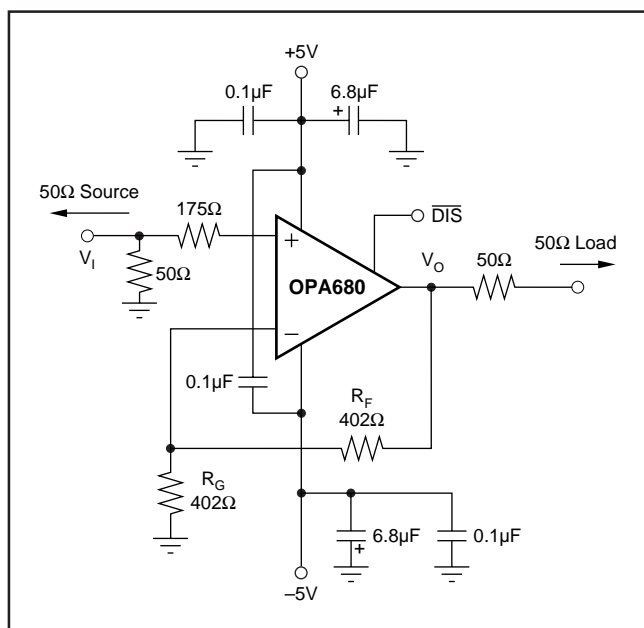
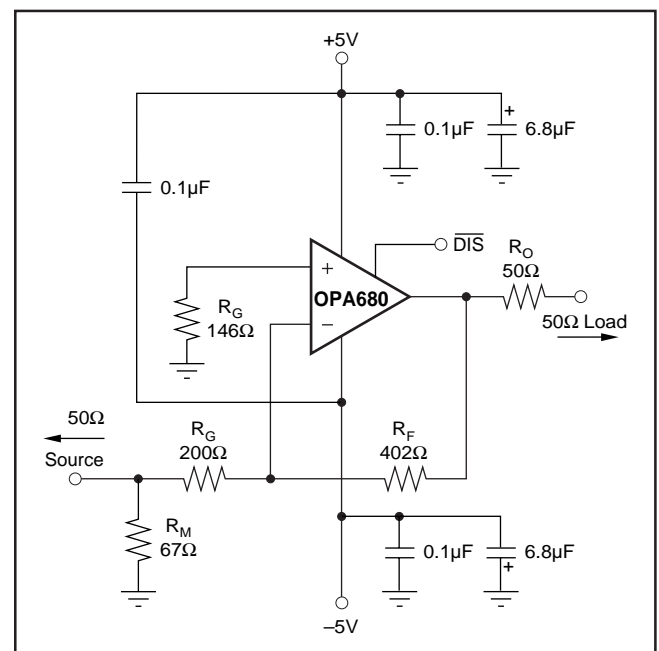

FIGURE 1. DC-Coupled, $G = +2$, Bipolar Supply, Specification and Test Circuit.
FIGURE 8. Gain of -2 Example Circuit.
At $T_A = +25^\circ C$, $G = +2$, $R_F = 402\Omega$, and $R_L = 100\Omega$, unless otherwise noted. See Figure 1.
Figure 1 shows the DC-coupled, gain of +2, dual power supply circuit configuration used as the basis of the $\pm 5\text{V}$ Specifications and Typical Performance Curves. For test purposes, the input impedance is set to 50Ω with a resistor to ground and the output impedance is set to 50Ω with a series output resistor. Voltage swings reported in the specifications are taken directly at the input and output pins, while output powers (dBm) are at the matched 50Ω load. For the circuit of Figure 1, the total effective load will be $100\Omega \parallel 804\Omega$. The disable control line is typically left open to guarantee normal amplifier operation. Two optional components are included in Figure 1. An additional resistor (175Ω) is included in series with the non-inverting input. Combined with the 25Ω DC source resistance looking back towards the signal generator, this gives an input bias current cancelling resistance that
A good rule of thumb is to target the parallel combination of R_F and R_G (Figure 1) to be less than approximately 300Ω . The combined impedance $R_F \parallel R_G$ interacts with the inverting input capacitance, placing an additional pole in the feedback network and thus, a zero in the forward response. Assuming a $2pF$ total parasitic on the inverting node, holding $R_F \parallel R_G < 300\Omega$ will keep this pole above $250MHz$. By itself, this constraint implies that the feedback resistor R_F can increase to several $k\Omega$ at high gains. This is acceptable as long as the pole formed by R_F and any parasitic capacitance appearing in parallel is kept out of the frequency range of interest.
Voltage feedback op amps exhibit decreasing closed-loop bandwidth as the signal gain is increased. In theory, this relationship is described by the Gain Bandwidth Product (GBP) shown in the specifications. Ideally, dividing GBP by the non-inverting signal gain (also called the Noise Gain, or NG) will predict the closed-loop bandwidth. In practice, this only holds true when the phase margin approaches 90° , as it does in high gain configurations. At low gains (increased feedback factors), most amplifiers will exhibit a more complex response with lower phase margin. The OPA680 is compensated to give a slightly peaked response in a non-inverting gain of 2 (Figure 1). This results in a typical gain of +2 bandwidth of $220MHz$, far exceeding that predicted by dividing the $300MHz$ GBP by 2. Increasing the gain will cause the phase margin to approach 90° and the bandwidth to more closely approach the predicted value of (GBP/NG) . At a gain of +10, the $30MHz$ bandwidth shown in the Typical Specifications agrees with that predicted using the simple formula and the typical GBP of $300MHz$.
Frequency response in a gain of +2 may be modified to achieve exceptional flatness simply by increasing the noise gain to 2.5. One way to do this, without affecting the +2 signal gain, is to add an 804Ω resistor across the two inputs in the circuit of Figure 1. A similar technique may be used
Since the OPA680 is a general purpose, wideband voltage feedback op amp, all of the familiar op amp application circuits are available to the designer. Inverting operation is one of the more common requirements and offers several performance benefits. Figure 8 shows a typical inverting configuration where the I/O impedances and signal gain from Figure 1 are retained in an inverting circuit configuration.
amplifier output. For an inverting gain of 2, setting R_G to 50Ω for input matching eliminates the need for R_M but requires a 100Ω feedback resistor. This has the interesting advantage that the noise gain becomes equal to 2 for a 50Ω source impedance—the same as the non-inverting circuits considered above. However, the amplifier output will now see the 100Ω feedback resistor in parallel with the external load. In general, the feedback resistor should be limited to the 200Ω to $1.5k\Omega$ range. In this case, it is preferable to increase both the R_F and R_G values as shown in Figure 8, and then achieve the input matching impedance with a third resistor (R_M) to ground. The total input impedance becomes the parallel combination of R_G and R_M .
The second major consideration, touched on in the previous paragraph, is that the signal source impedance becomes part of the noise gain equation and hence influences the bandwidth. For the example in Figure 8, the R_M value combines in parallel with the external 50Ω source impedance, yielding an effective driving impedance of $50\Omega \parallel 67\Omega = 28.6\Omega$. This impedance is added in series with R_G for calculating the noise gain (NG). The resultant NG is 2.8 for Figure 8, as opposed to only 2 if R_M could be eliminated as discussed above. The bandwidth will therefore be slightly lower for the gain of -2 circuit of Figure 8 than for the gain of $+2$ circuit of Figure 1.
The third important consideration in inverting amplifier design is setting the bias current cancellation resistor on the non-inverting input (R_B). If this resistor is set equal to the total DC resistance looking out of the inverting node, the output DC error, due to the input bias currents, will be reduced to (Input Offset Current) $\cdot R_F$. If the 50Ω source impedance is DC-coupled in Figure 8, the total resistance to ground on the inverting input will be 228Ω . Combining this in parallel with the feedback resistor gives the $R_B = 146\Omega$ used in this example. To reduce the additional high frequency noise introduced by this resistor, it is sometimes bypassed with a capacitor. As long as $R_B < 350\Omega$, the capacitor is not required since the total noise contribution of all other terms will be less than that of the op amp's input noise voltage. As a minimum, the OPA680 requires an R_B value of 50Ω to damp out parasitic-induced peaking—a direct short to ground on the non-inverting input runs the risk of a very high frequency instability in the input stage.
The OPA680 provides good distortion performance into a 100Ω load on $\pm 5V$ supplies. Relative to alternative solutions, it provides exceptional performance into lighter loads and/or operating on a single +5V supply. Generally, until the fundamental signal reaches very high frequency or power levels, the 2nd harmonic will dominate the distortion with a negligible 3rd harmonic component. Focusing then on the 2nd harmonic, increasing the load impedance improves distortion directly. Remember that the total load includes the feedback network; in the non-inverting configuration (Figure 1) this is sum of $R_F + R_G$, while in the inverting configuration, it is just R_F . Also, providing an additional supply decoupling capacitor (0.1μF) between the supply pins (for bipolar operation) improves the 2nd-order distortion slightly (3dB to 6dB).
Evaluating these two equations for the OPA680 circuit and component values shown in Figure 1 will give a total output spot noise voltage of $11\text{nV}/\sqrt{\text{Hz}}$ and a total equivalent input spot noise voltage of $5.5\text{nV}/\sqrt{\text{Hz}}$. This is including the noise added by the bias current cancellation resistor (175Ω) on the non-inverting input. This total input-referred spot noise voltage is only slightly higher than the $4.8\text{nV}/\sqrt{\text{Hz}}$ specification for the op amp voltage noise alone. This will be the case
as long as the impedances appearing at each op amp input are limited to the previously recommend maximum value of 300Ω . Keeping both $(R_F \parallel R_G)$ and the non-inverting input source impedance less than 300Ω will satisfy both noise and frequency response flatness considerations. Since the resistor-induced noise is relatively negligible, additional capacitive decoupling across the bias current cancellation resistor (R_B) for the inverting op amp configuration of Figure 8 is not required.
The balanced input stage of a wideband voltage feedback op amp allows good output DC accuracy in a wide variety of applications. The power supply current trim for the OPA680 gives even tighter control than comparable products. Although the high speed input stage does require relatively high input bias current (typically $14\mu\text{A}$ out of each input terminal), the close matching between them may be used to reduce the output DC error caused by this current. The total output offset voltage may be considerably reduced by matching the DC source resistances appearing at the two inputs. This reduces the output DC error due to the input bias currents to the offset current times the feedback resistor. Evaluating the configuration of Figure 1, using worst-case $+25^\circ\text{C}$ input offset voltage and current specifications, gives a worst-case output offset voltage equal to: – (NG = non-inverting signal gain)